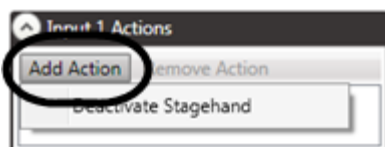

Figure 107
2. In the **Input (1, 2, 3 or 4) Action** section of the **FX Editing Pane**, click the **Add Action** button (Figure 107).